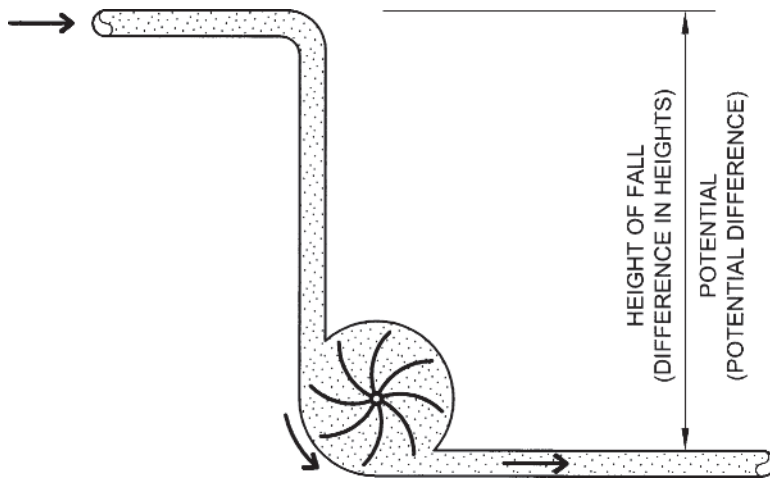
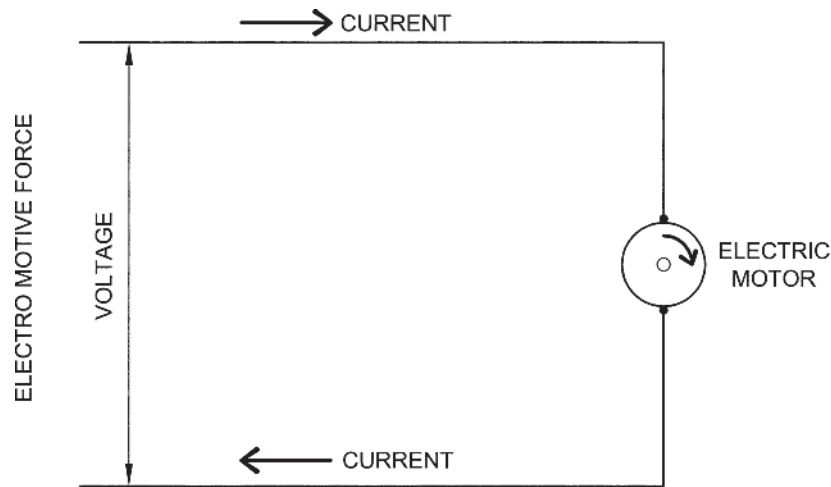

Fig. 1.3a The power output of the waterwheel is a function of the magnitude of the flow (current) and the difference in height, which creates the pressure.
Fig. 1.3b The power output of the electric motor is a function of the electric current and the electromotive force (voltage).
When people built water wheels, they understood that they would get the most power if the water fell from a great height and there was a large flow (current). In Figure 1.3a, you can see that the pressure (potential) powering the water wheel is a function of the height from which the water falls. However, the power output of the water wheel is also a function of the amount of water falling on it. Similarly, the output of an electric motor is a function of the electrical pressure, called the **electromotive force**, imposed on it and the electric current flowing through it (Fig. 1.3b). Electrical pressure results from a difference of electrical charges. Electrons will flow from a negative charge to a positive charge, and the greater the difference in charges the greater the **electromotive force (E)** measured in **volts (V)***. The electrical **current (I)** is propelled
The flow of water in Fig. 1.3a is opposed not only by the resistance of the pipes but also by the resisting force as the waterwheel does work. Similarly, the current through a motor is opposed not only by the resistance of the wires in the motor but also by the resisting forces of the motor doing work. The first of these two properties that opposes the flow of electricity is called *electrical resistance* and will be discussed now. The second property that opposes the current is called inductive reactance and will be discussed later.